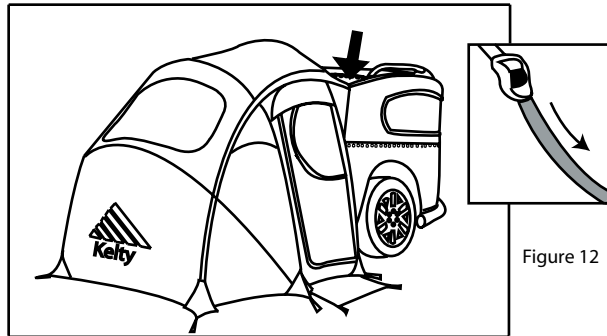

Figure 12
12. Cinch down the ladder locks located on the top corners of the trailer (Figure 12) to provide a tight fit between the trailer and tent.